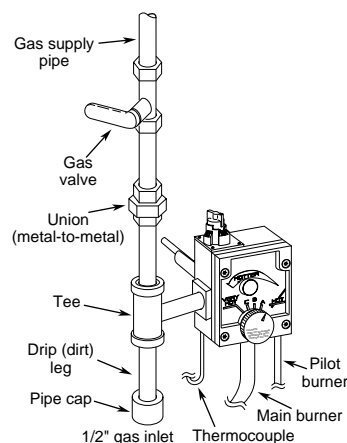

Figure 1. Typical Gas Connection
- Make pipe connections with drip leg installed as illustrated in figure 1. Before making pipe connections, apply pipe joint compound (pipe dope) or teflon tape that is approved for all gases, only to the male threads of the pipe joints. DO NOT apply compound or teflon tape to the first two threads.